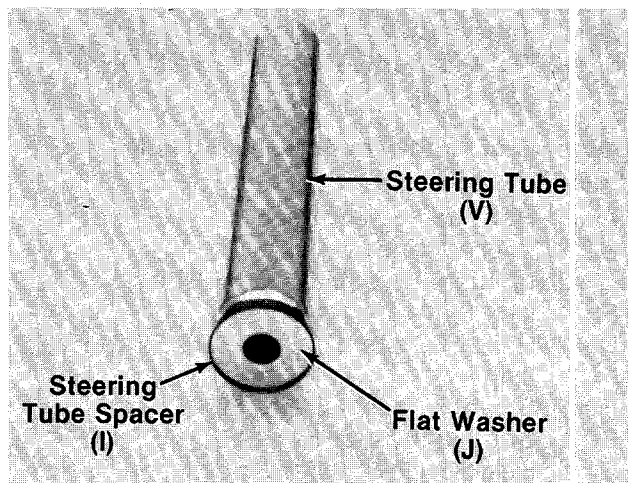

FIGURE 5.—Style A Only
2. **Style A only**—Press the large **flat washer (J)** (1-5/8" diameter) into the open side of the black plastic **steering tube spacer (I)**. See figure 5.
3. **Style A only**—Press the **steering tube spacer** into one end of the chrome-plated **steering tube (AE)**. See figure 5. Make certain spacer is seated securely into tube.